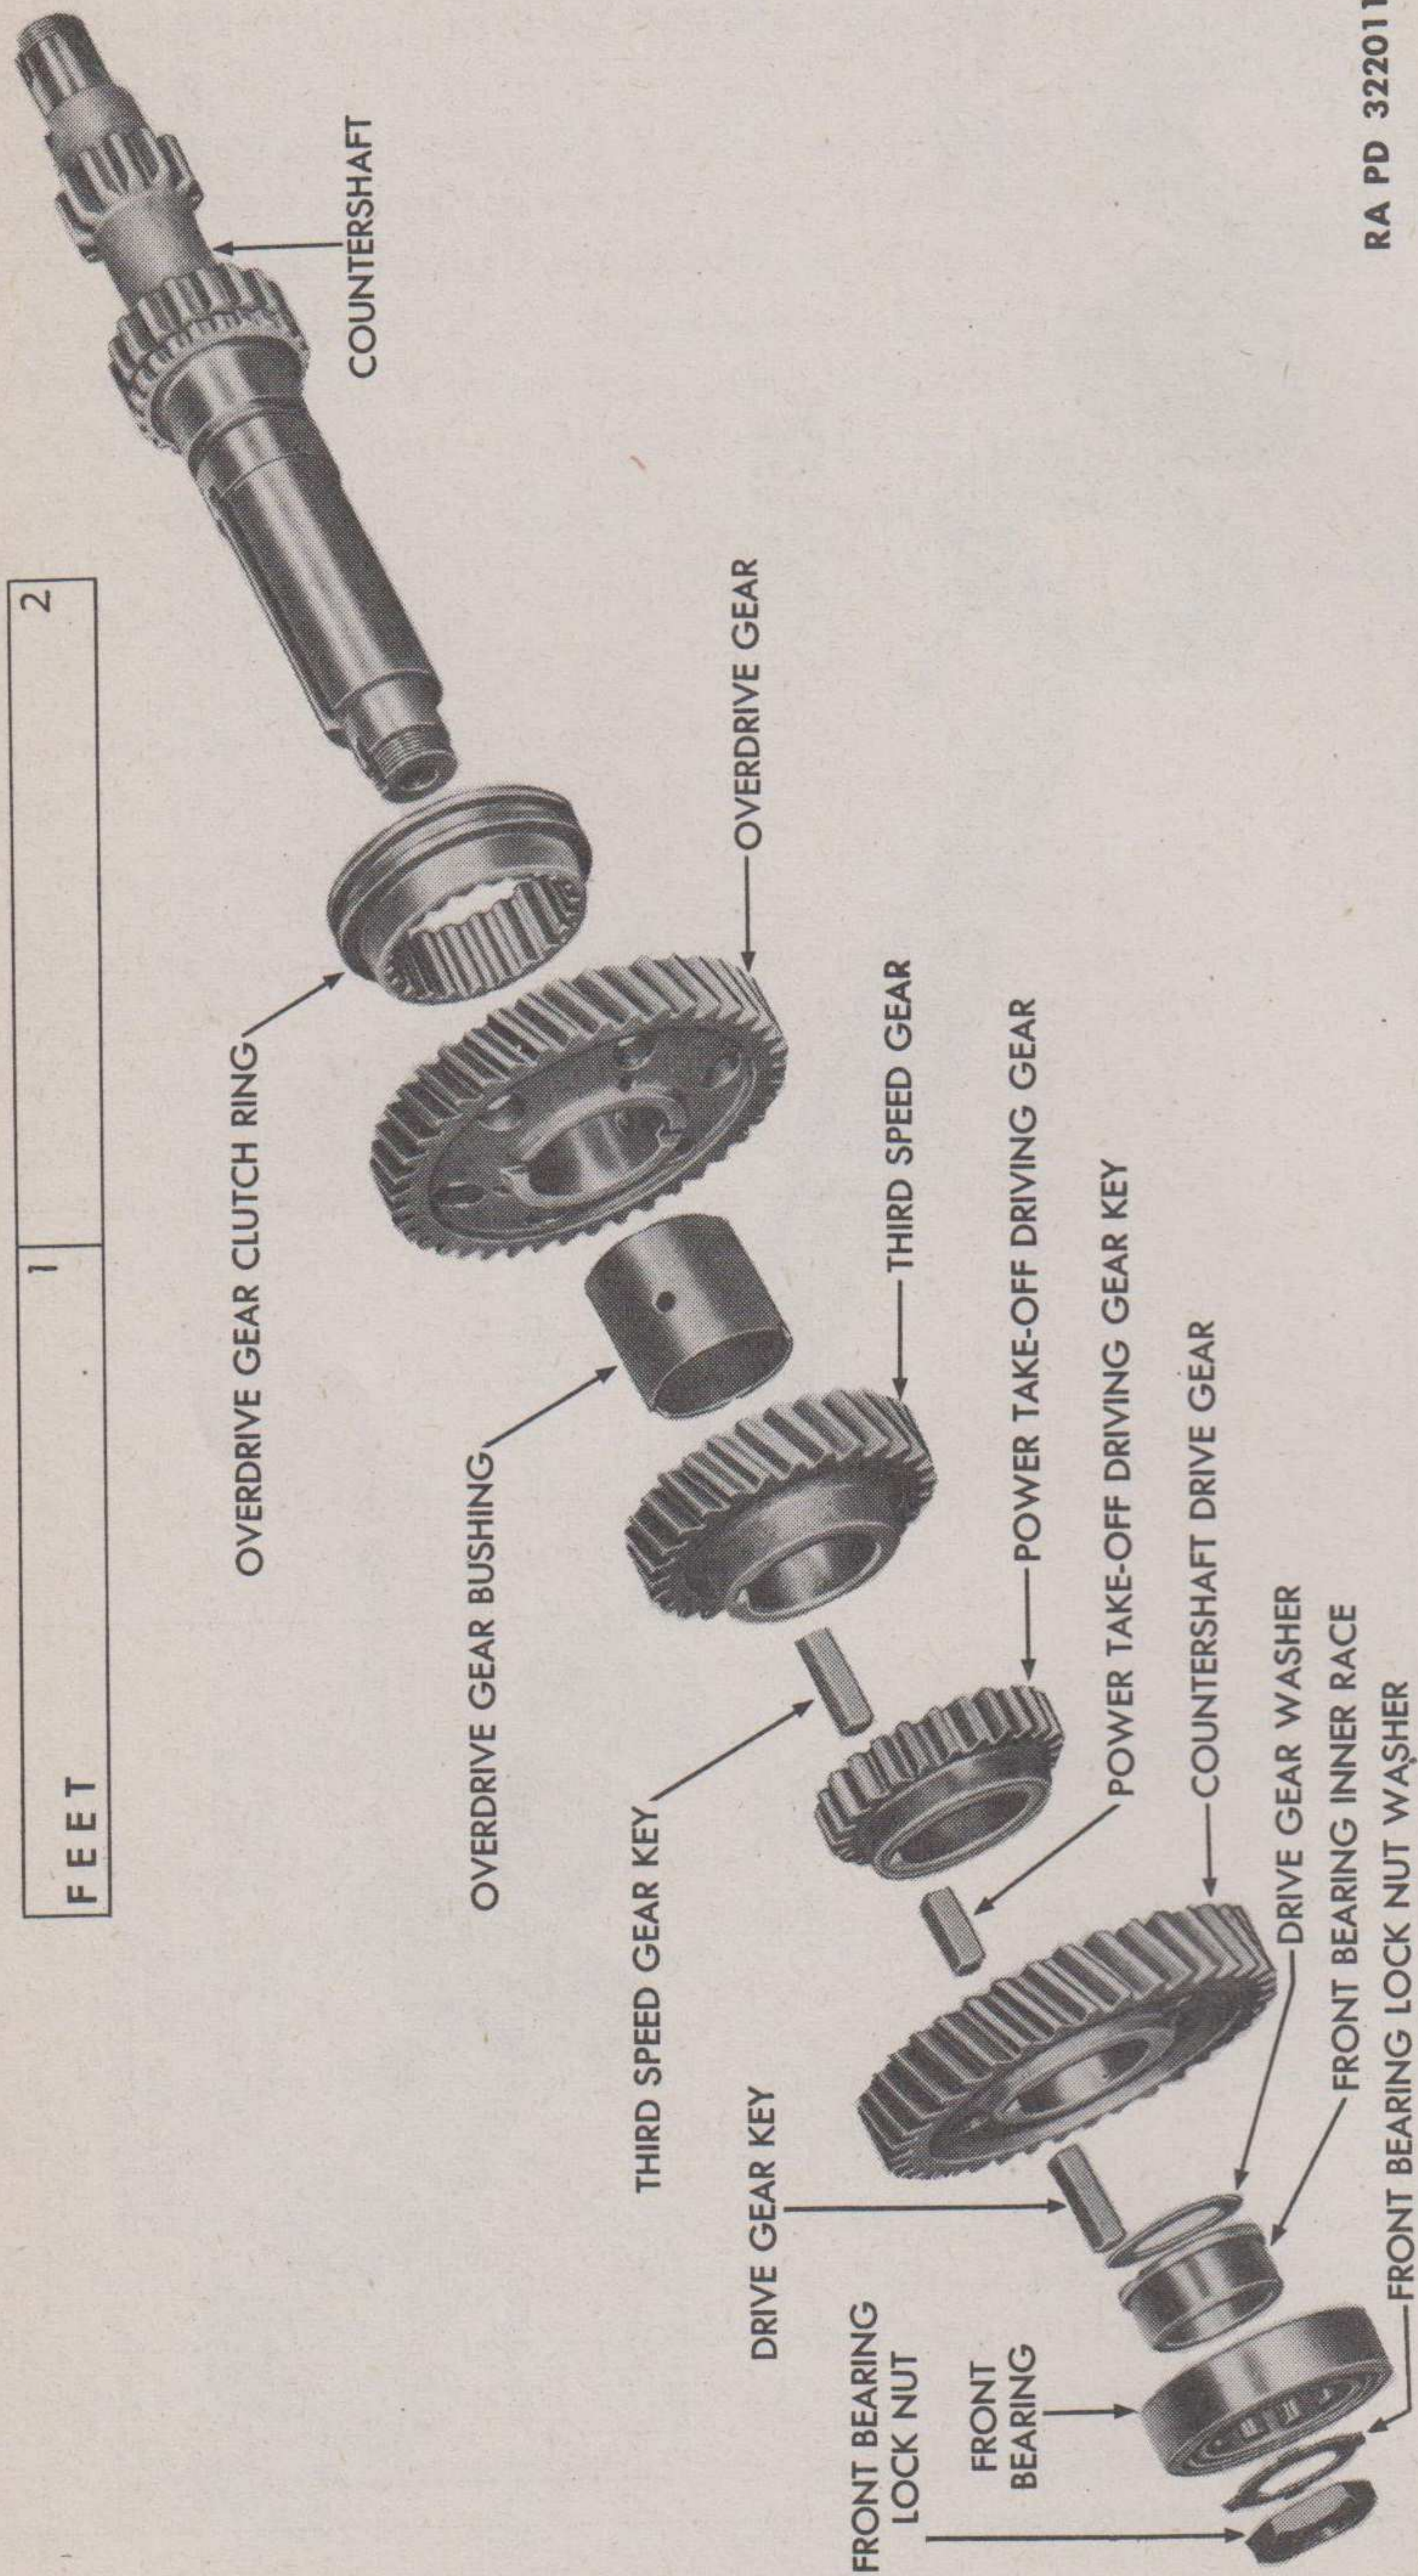

Figure 13 — Countershaft Disassembled
a. **Disassembly (fig. 13).** Remove front bearing lock nut and lock washer. Using an arbor press, press countershaft drive gear, drive gear washer, and front bearing inner race off shaft. Press off power take-off driving gear. Press off third-speed gear. Tap drive gear, power take-off, and third-speed gear keys out of countershaft keyway. Slide overdrive gear and clutch ring off shaft. Remove bushing from overdrive gear only if damaged or worn (subpar. b, below).
c. **Assembly (fig. 13).** Place overdrive gear clutch ring on overdrive gear, and slide this assembly on countershaft. Install third speed gear key in shaft keyway and press third-speed gear on shaft. Install power take-off gear key and press on power take-off driving gear. Install drive gear key and press drive gear on shaft. Position drive gear washer and press on front bearing inner race. Install front bearing lock nut washer and lock nut. Tighten nut and bend edge of washer over nut.